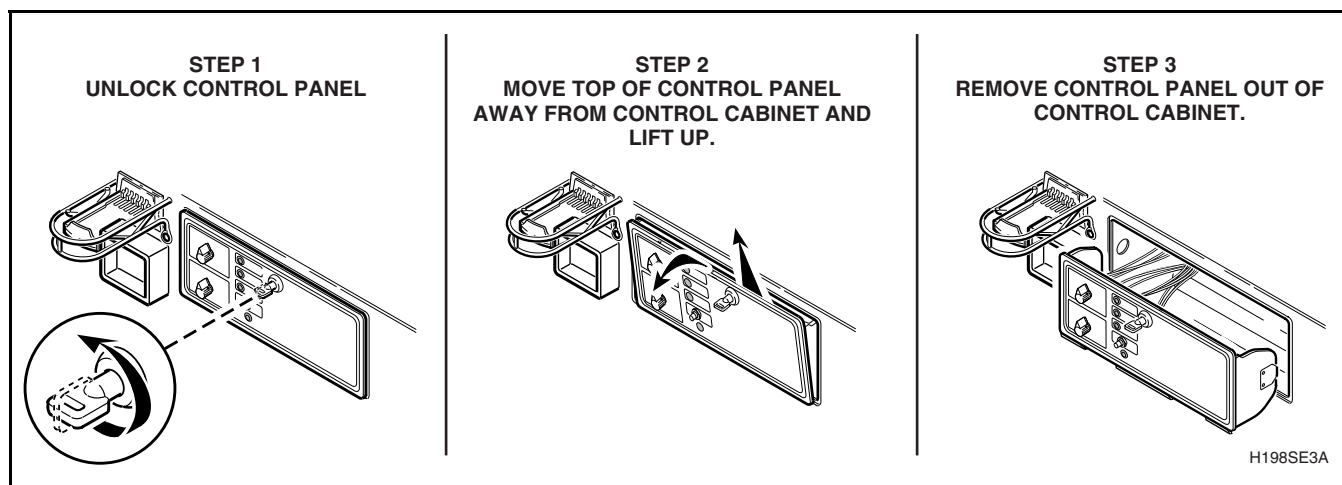

Figure 24
- (1) Unlock control panel. Refer to *Figure 24*, Step “1”.
- (2) Pull top of control panel away from control cabinet far enough to allow lifting control panel up and off the rail support of the control cabinet. Refer to *Figure 24*, Step “2”.
- (3) Remove control panel away from control cabinet as far as wires permit. Refer to *Figure 24*, Step “3”.
- (1) Unlock control panel. Refer to *Figure 24*.
- (2) Remove control panel away from control cabinet.